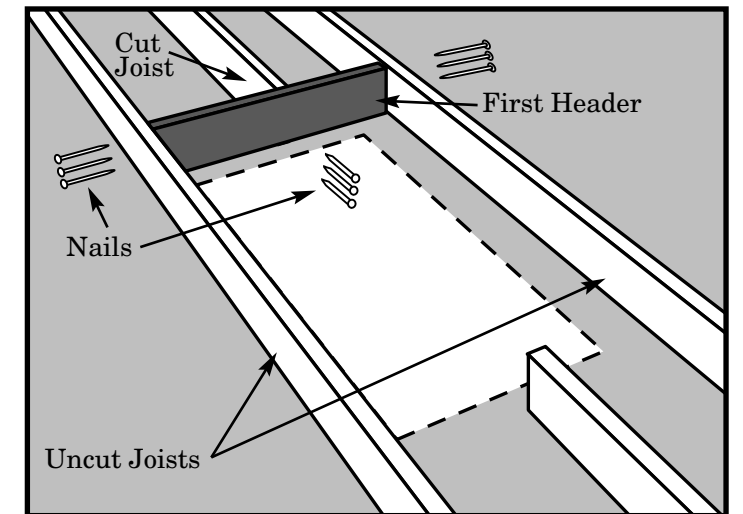

Figure 18
STEP 3. Place one of these headers against the end of the cut joist(s) as shown in Figure 18. It must fit snugly between the uncut joists. Hammer it into position if necessary; if it is more than 1/16 inch too long, trim it. If it is more than 1/16 inch too short, cut another piece.
STEP 4. Square the header to the uncut joist and nail the header to the end of the cut joist(s) with 3 nails (16d) as shown in Figure 18.
STEP 5. Check header for squareness then drive 3 nails (16d) through each joist into each end of the header as shown in Figure 18.